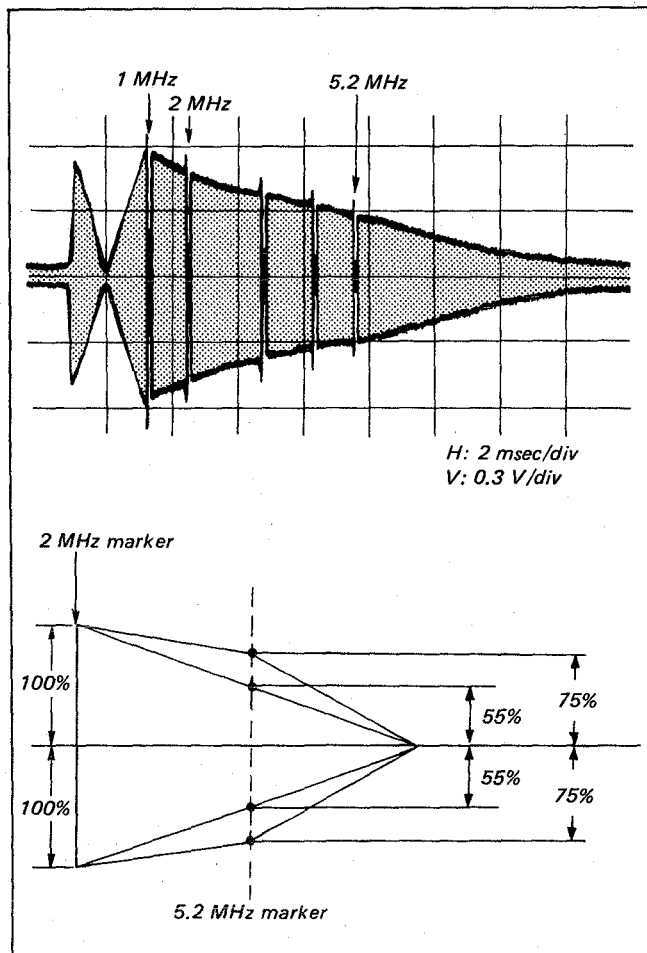

Fig. 5-14. Playback amplifier frequency characteristic adjustment
- ii) Adjust RV2 to make the 2 MHz amplitude of A and B channels equal. (See Fig. 5-14.)